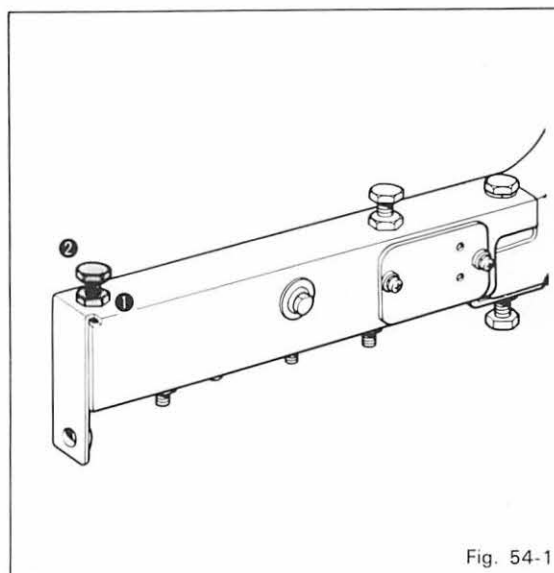

Fig. 54-1
After adjustment is over, fasten nut ❶ not to move bolt ❷. (Fig. 54-1)